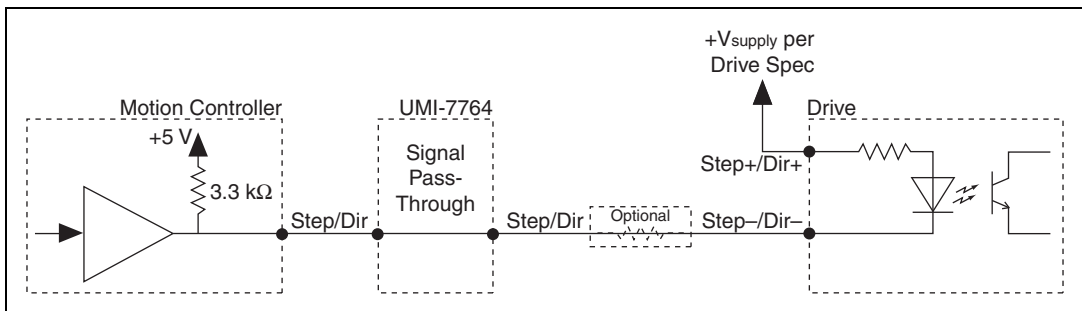

Figure 6. Opto-Isolated Step and Direction Output Connection
- **Step and Dir**—The Step and Dir signals are used as command outputs to a stepper drive. Some stepper drives require clockwise direction (CW) and counter-clockwise direction (CCW) commands rather than Step and Dir commands. You can configure National Instruments motion controllers to provide either type of stepper commands. Both Step and Dir signals are pass-through signals.
Many stepper drive manufacturers offer opto-isolated inputs for Step (CW)/Direction (CCW) signals. When connecting to opto-isolated inputs, connect the UMI-7764 Step output to the negative (cathode) side of the optocoupler input, and connect the positive (anode) side of the drive input to a supply as specified by the drive manufacturer. Figure 6 shows a connection example.